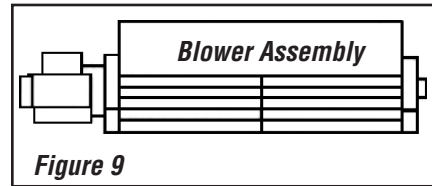

Figure 6
5. Remove blower access panel and gasket (see **Figure 5** for model EBVI25 and **Figure 6** for model EBVI30). **Be careful not to damage the gasket.**